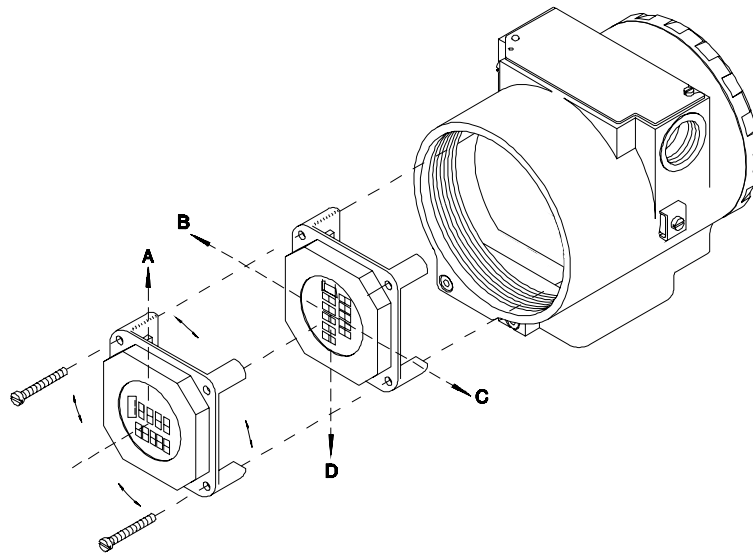

Figure 4.1 - Four Possible Positions of the Display
- Put input board (7) into housing (9).
- Anchor input board with its screws (6).
- Put main board (5) into the housing, ensuring all inter connecting pins are connected.
- Put display (4) into the housing, observing the four mounting positions (See Figure 4.1 - Four Possible Positions of the Display) “\_” should point in the direction desired as UP.
- Anchors main board and display with their screws (3).
- Fit the cover (1) and lock it using the locking screw (8).